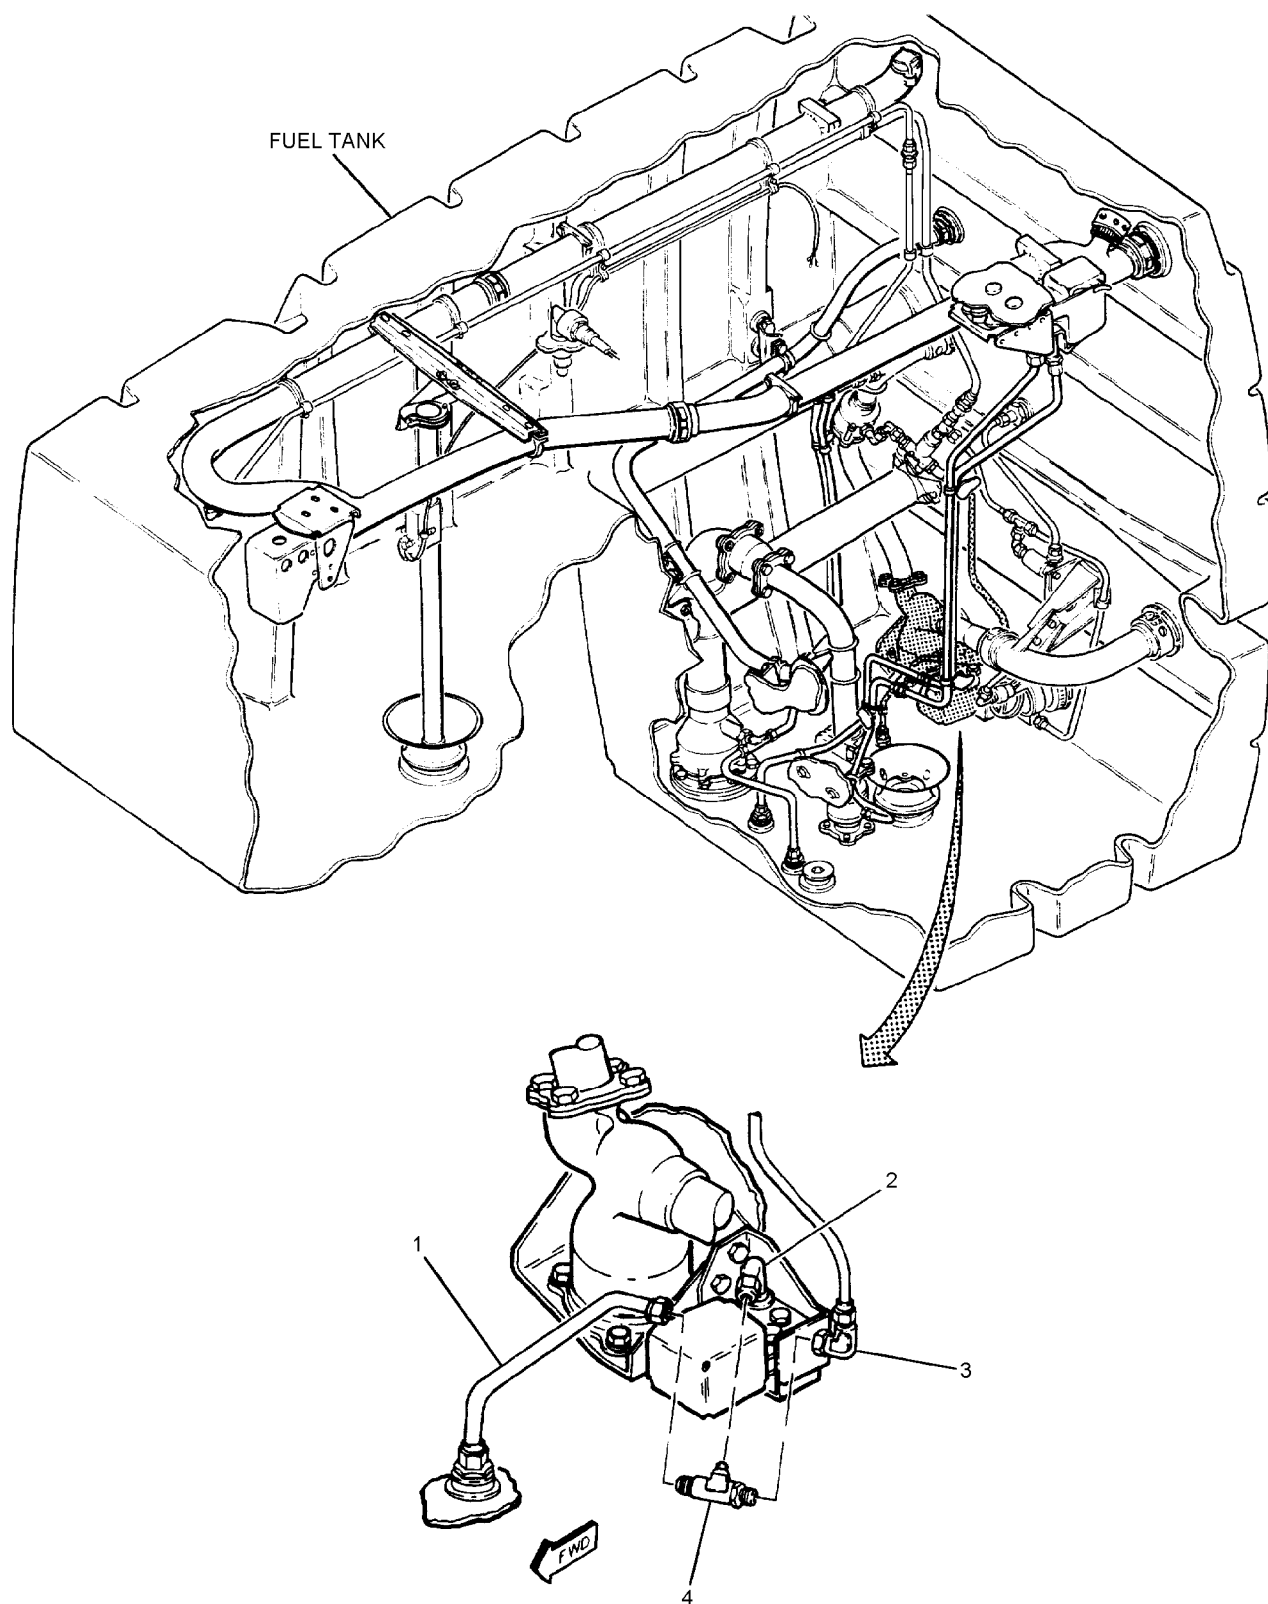

Figure 1. No. 1 Fuel Tank Transfer Precheck Valve (5VAP606) (Sheet 1)
b. Connect tube (1, figure 1) and elbows (2 and 3) to valve (4).